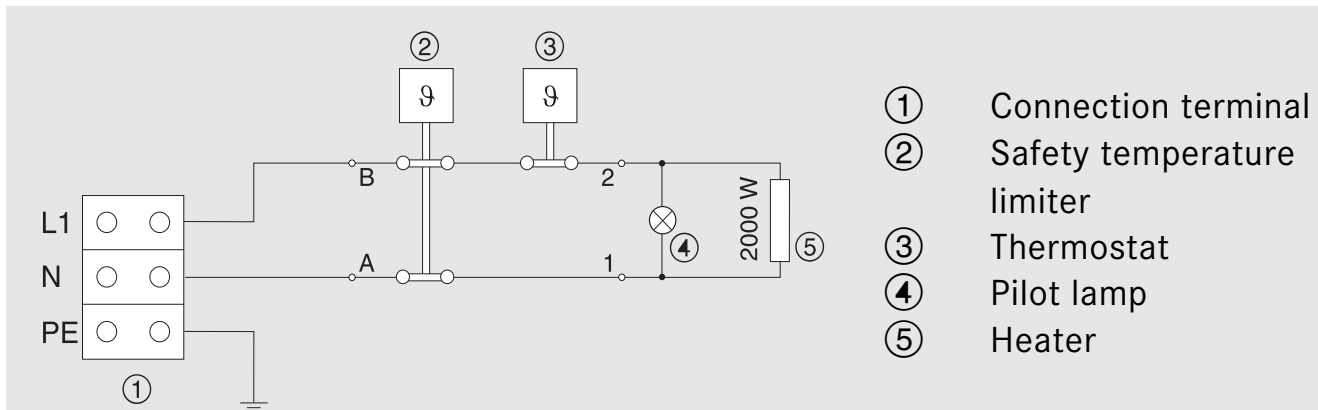

Fig. 4: Circuit diagram
Having removed the cover, the mains cable must be led through the cable entry at the bottom side of the appliance and must be fastened using the strain relief strap. Then the connection to the binders L1, N and ⊕ (PE) has to be made (refer to figure 4).